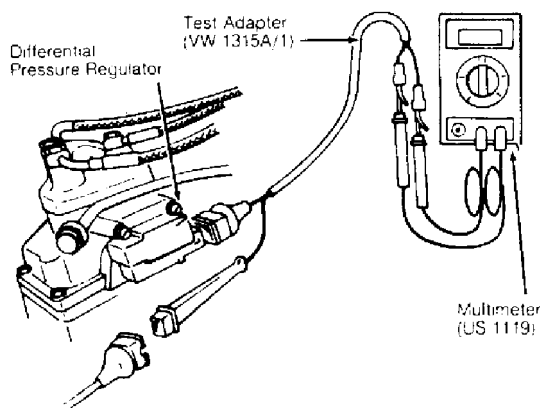

Fig. 3: Digital Multimeter Hook-Up
7) Remove CO probe receptacle cap and connect CO meter. Ensure fit is snug to prevent exhaust leaks. Connect Digital Multimeter (US 1119) with Adapter (VW 1315 A/1) to differential pressure regulator. See Fig. 3.